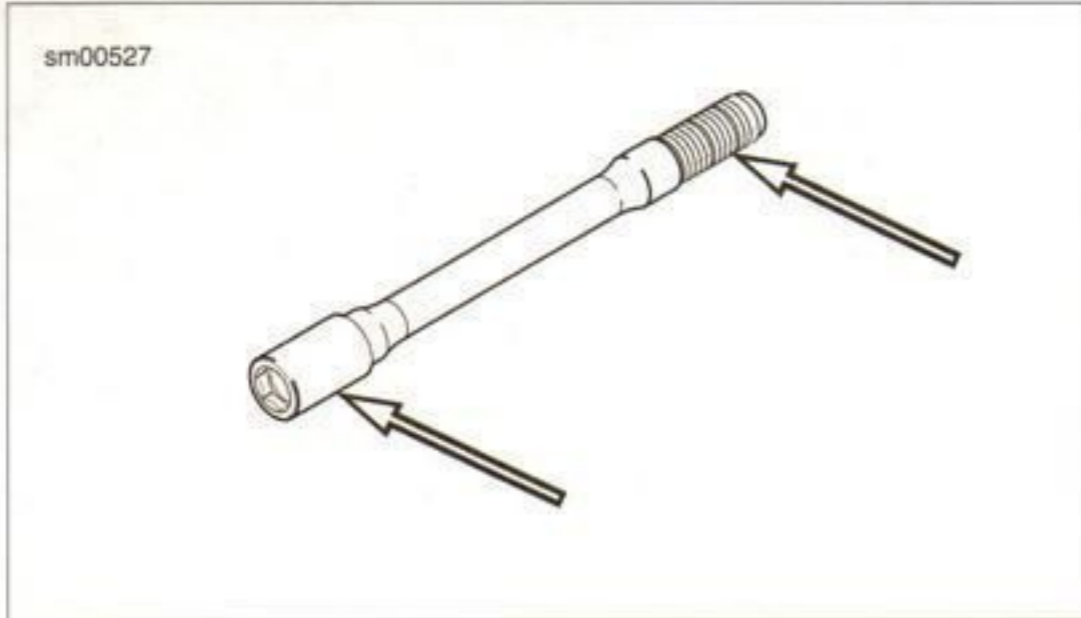

Figure 2-32. Anti-Seize Lubricant Location
2. See Figure 2-32. Coat the axle with LOCTITE ANTI-SEIZE LUBRICANT.